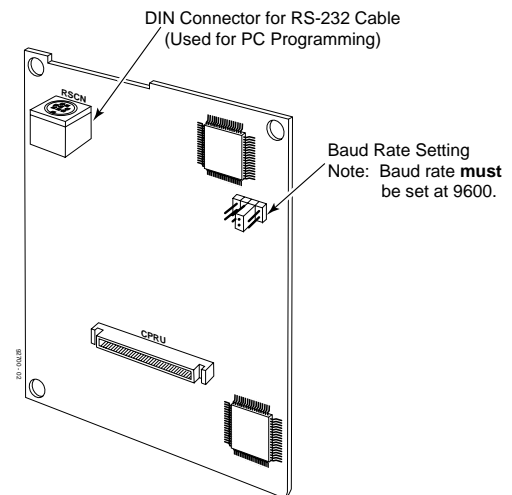

Figure 2-4 28i LAPBU MODULE
### 28i System (Figure 2-4)
2. Connect the DIN-to-9 pin RS-232 cable (P/N 92707) to the 28i's LAPB card. Refer to Figure 2-4.